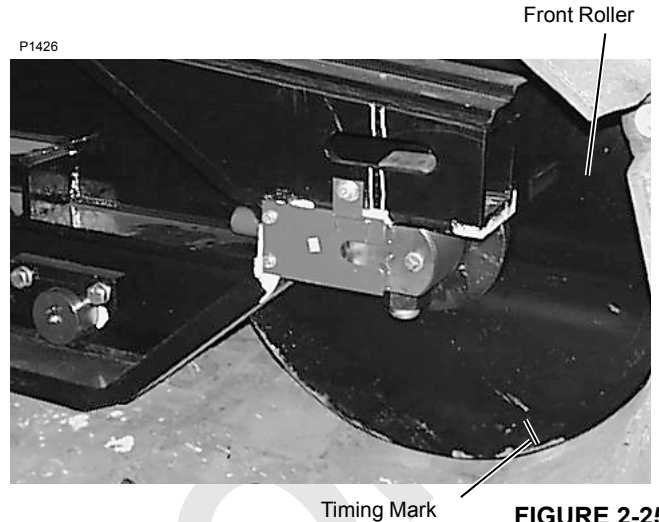

FIGURE 2-25
1. Put a timing mark on either front roller (Figure 2-25).